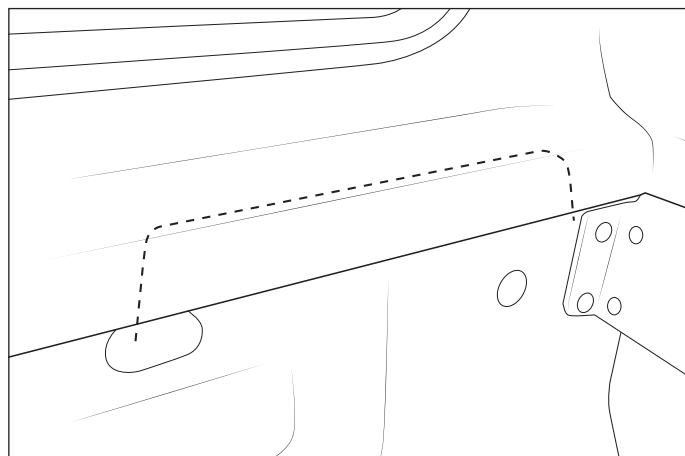

Figure 12
7. The spare tire must sit flush against the bedside. Temporarily place tire into position and mark the inside flange of the bed cap where the tire makes contact (fig. 12).